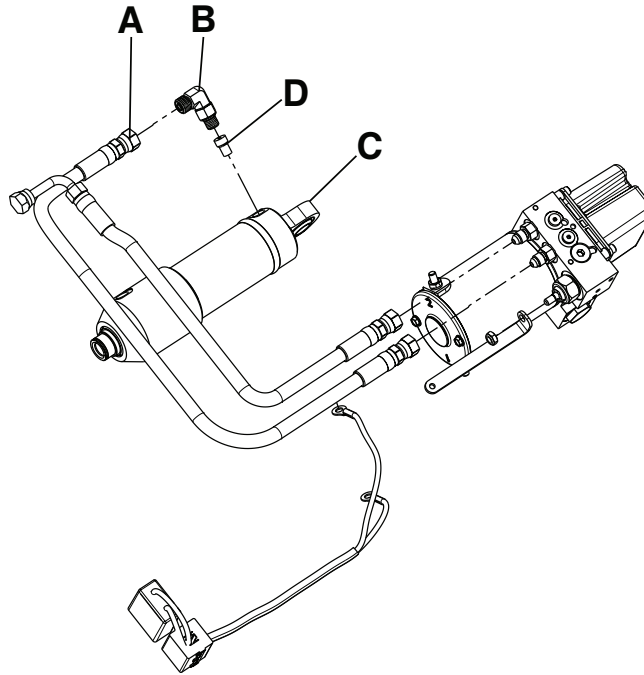

Figure 30 – Velocity fuse components
- Using an 11/16" combination wrench, disconnect the hydraulic hose (A) closest to the mounting bracket at the head end of the trolley (Figure 30).
4. Using a 5/8" combination wrench, loosen (do not remove) the jam nut on the cylinder hose fitting (B) and unthread the fitting from the hydraulic cylinder (C) (Figure 30). Save all parts for reinstallation.
5. Using a 1/8" hex wrench, remove the velocity fuse (D) from the hydraulic cylinder (C) (Figure 30). Discard the fuse.